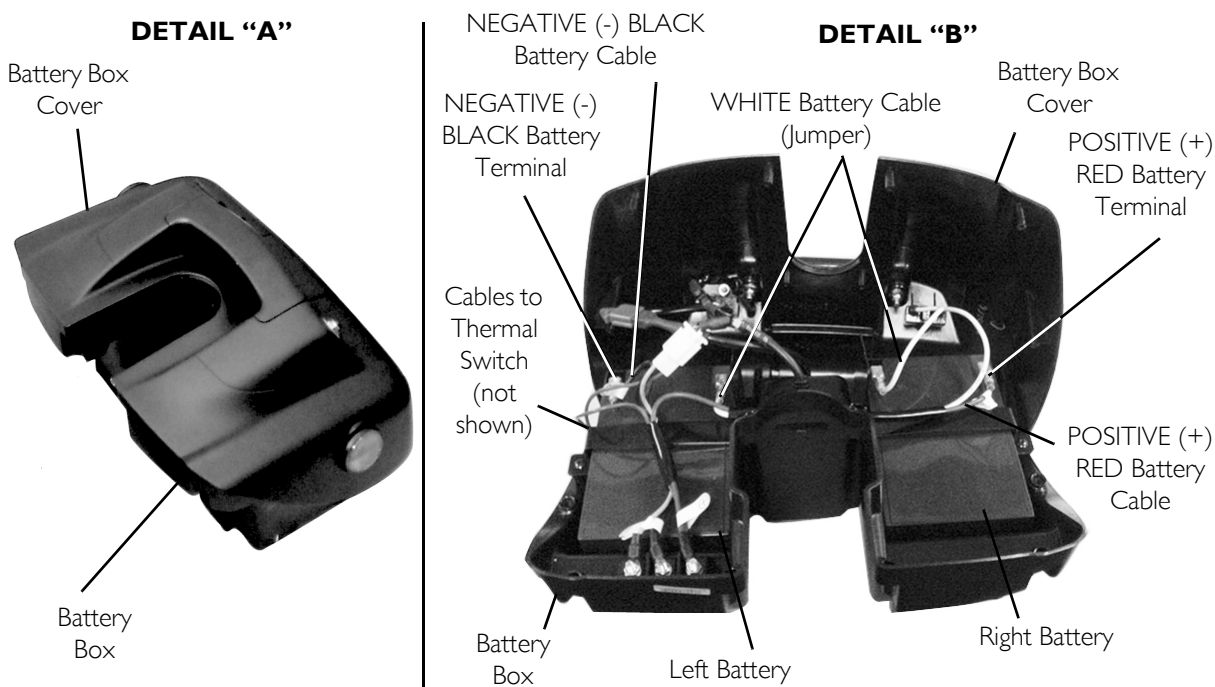

FIGURE 11.1 Removing/Installing the Batteries
3. Connect the wiring harness to the batteries in the following order (Detail "B" of FIGURE 11.1):
4. Replace the top of the battery box and secure with the twelve mounting screws (Detail "A" of FIGURE 11.1). Securely tighten.